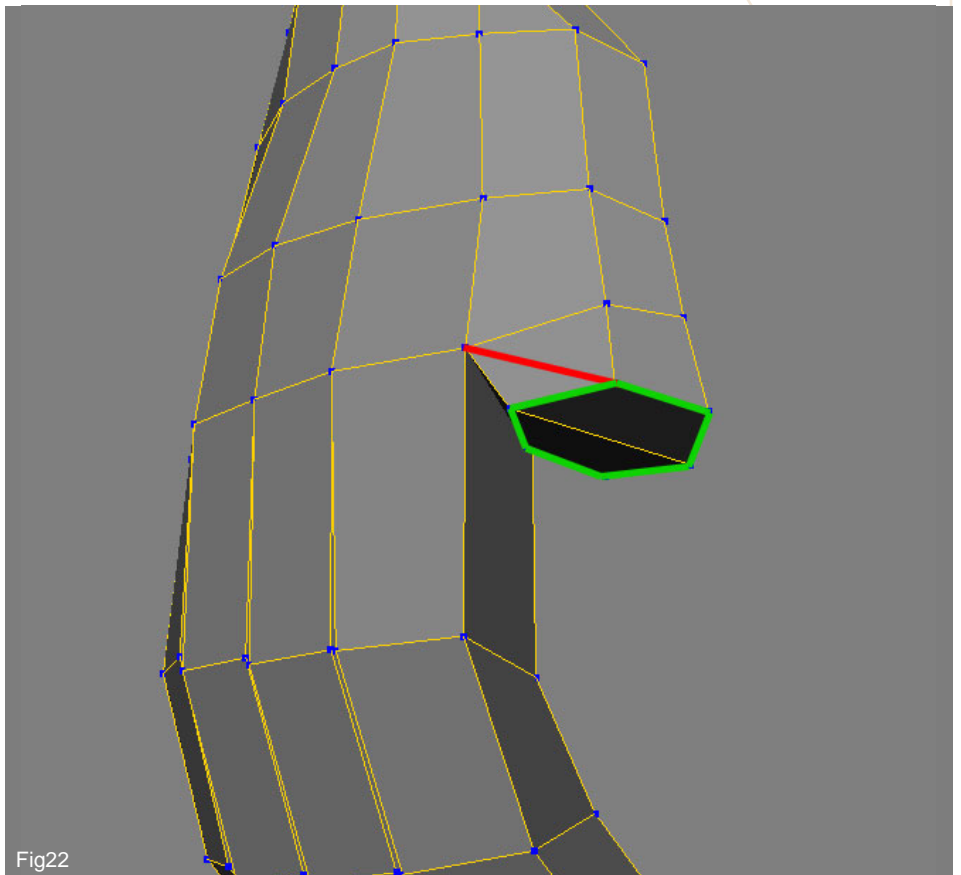

Fig22
22. Now it's time to extrude the thumb. Adjust the vertices if needed, to get a better shape before extruding. Then extrude the polygons (green contour in Fig 2), and finally add the cut marked in red in Fig 22.